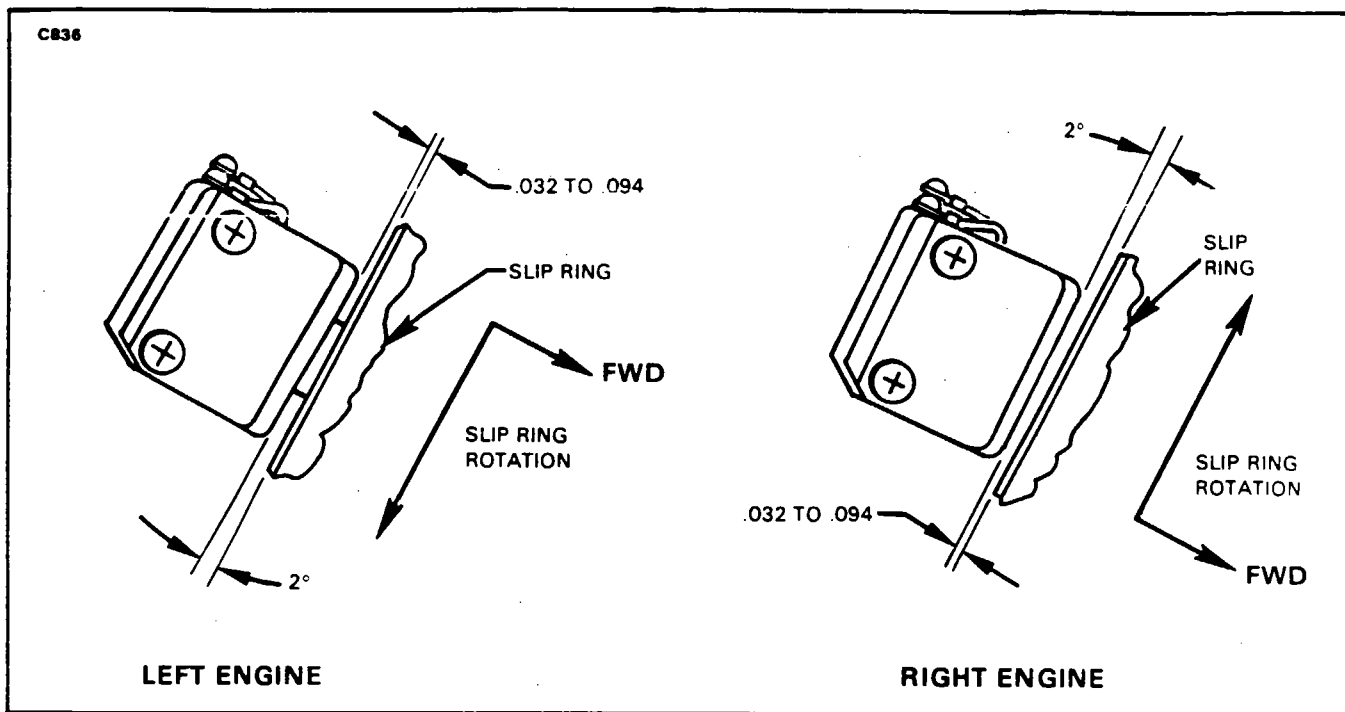

Figure 30-19. Angle of Contact Brushes to Slip Rings
- B. Check for proper clearance of modular brush assembly to slip rings as shown in Figure 30-19. If not correct, loosen mounting screws and move in elongated holes to correct block position before maintaining securely.
- D. Visually check brush block for approximately 2° angle of attack. (Refer to Figure 30-19.) If not, loosen mounting screws and twist block, but be sure to hold clearance limits shown when tightening.
ALIGNMENT OF NEW BRUSHES. (Refer to Figure 30-19.)